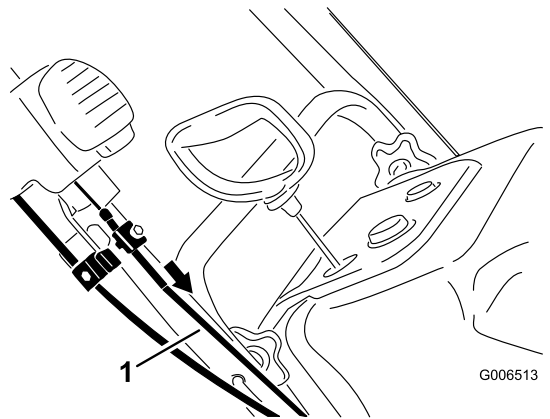

Figure 45
5. Pull the upper cable casing forward until you remove the slack in the cable, and tighten the screw on the upper cable clamp securely (Figure 45).